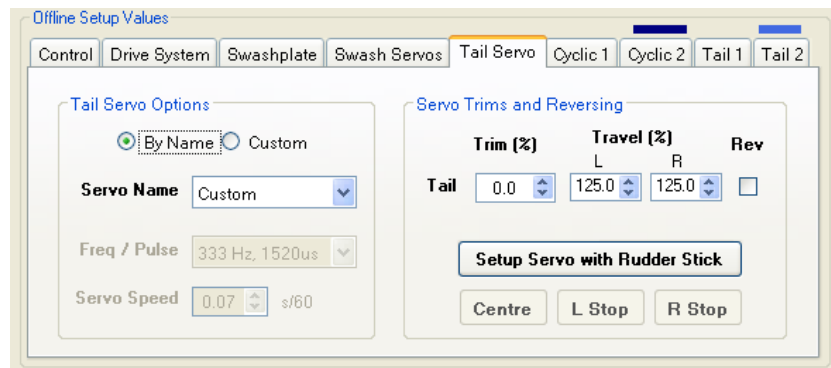

Figure 11.7 – Offline Setup Values *Tail Servo* Tab
- If the tail blade pitch response is not correct, reverse it by clicking on the *Rev* checkbox in the *Servo Trims and Reversing* area (see Figure 11.7).